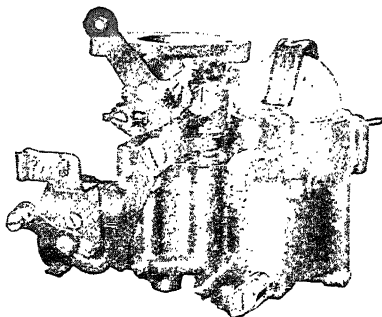

Fig. 59. Exterior View of the "U" Carburetor with "U" Gas Feature
*Stromberg Vis-a-Gas.* A number of the Stromberg carburetors, notably the Model "U," are fitted with the Stromberg vis-a-gas. This little device has a transparent cover which goes over the carburetor bowl and contains within it a gasoline strainer. Every drop of gasoline entering the carburetor is strained of dirt and impurities, thus preventing the clogging of the small orifices and jets in the carburetor. This device may easily be drained or cleaned. It is shown in position on the Model "U" in Fig. 59.